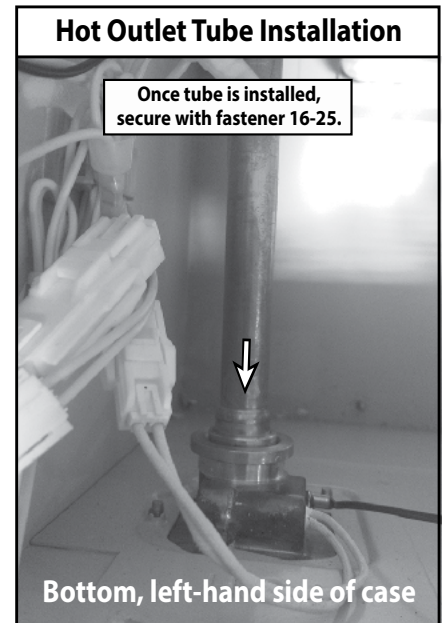

Figure 67.
10. Insert the outlet tubing into the water outlet connection, making sure that the brass ring on the tube goes all the way in and is flush with the top of the outlet connection (Figure 67).